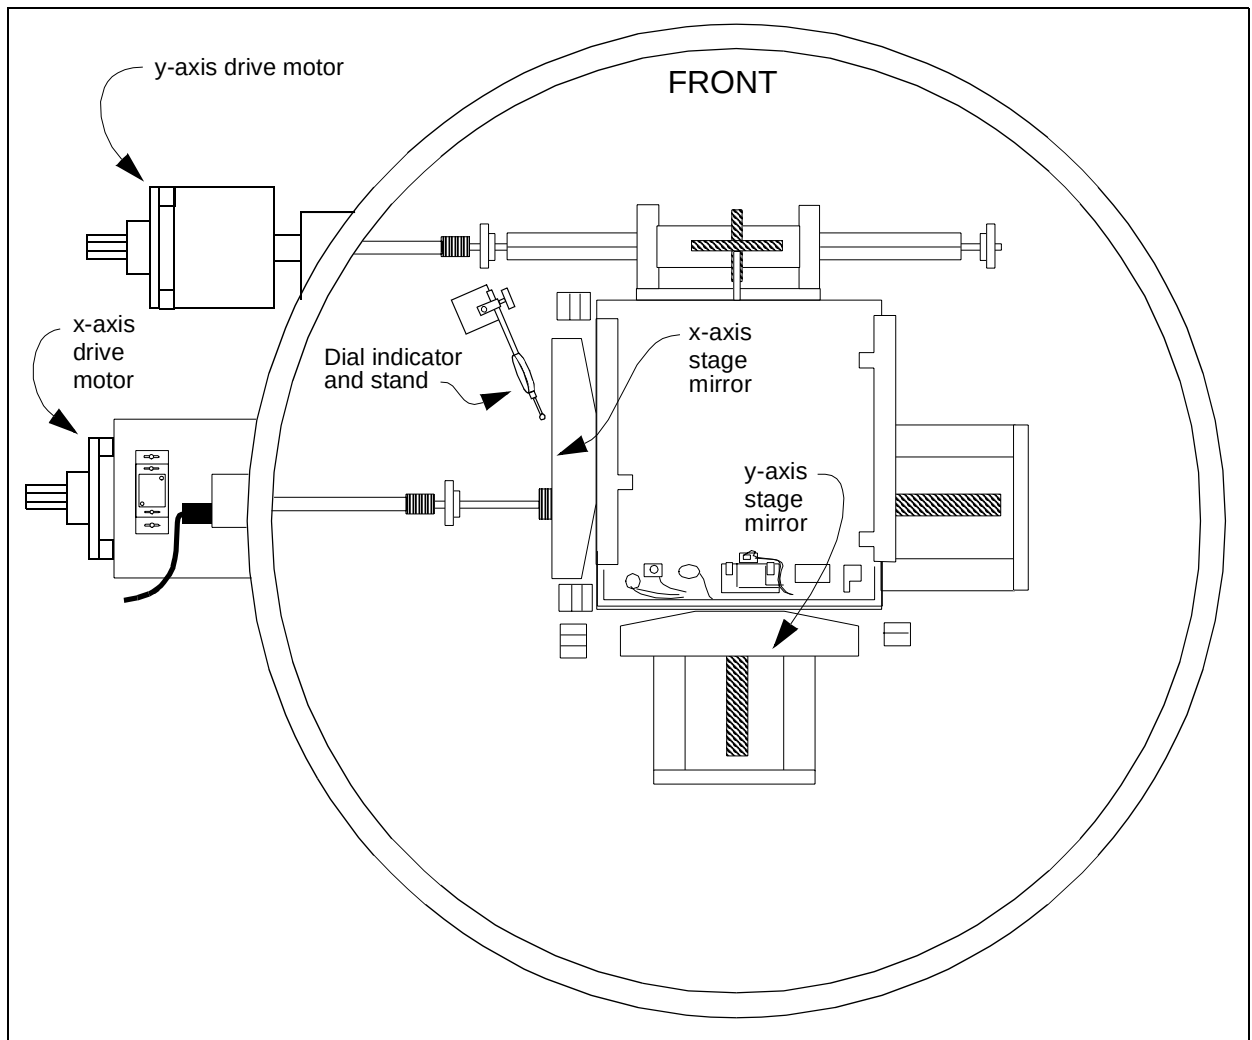
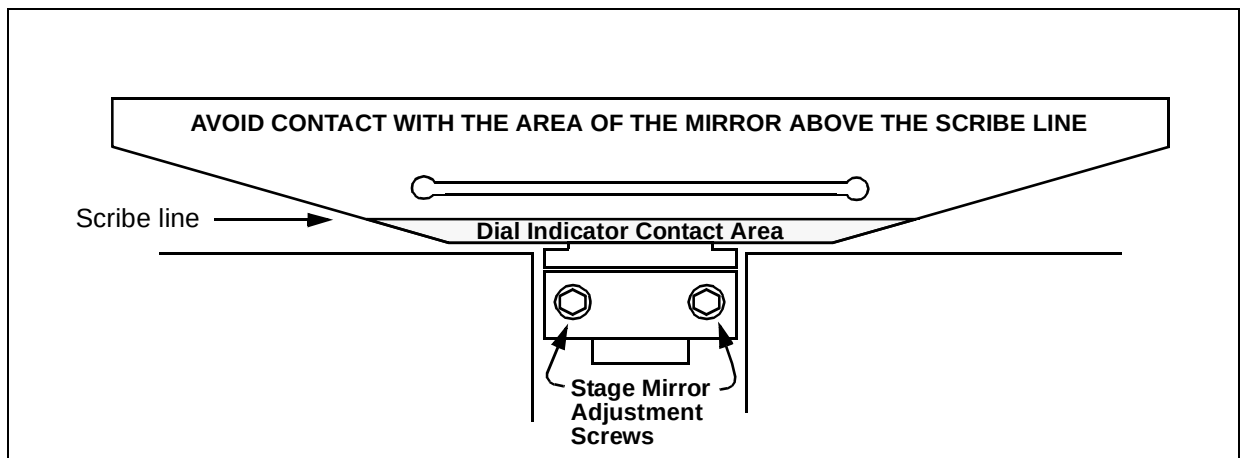

Figure 1. Top View of the Workchamber and Stage Mirrors (Lid Open)
Figure 2. Side View of Stage Mirror
- 2-2. Figure 1 shows the position of the x-axis stage mirror within the workchamber. Figure 2 shows the side view of the x-axis stage mirror. Note that there is a scribe line near the bottom of the mirror. The laser beams make contact with the area of the mirror above the scribe line; **this surface must not be scratched or damaged in any way.** The area below the scribe line is not contacted by the laser beams; this is the area of the mirror that will be used (with the dial indicator) to check the stage mirror alignment.
- 2-3. Use the adjustable dial indicator stand to position the dial indicator near the side of the x-axis stage mirror (see Figure 1). Adjust the height of the dial indicator stand so that the dial indicator will make contact with the area of the x-axis stage mirror **below the scribe line.** See Figure 2.
- 2-6. If the dial indicator reading varies by more than 0.00005", use the stage mirror adjustment screws (shown in Figure 2) to adjust the position of the x-axis stage mirror. Begin with minimal rotation (less than one turn) of the stage mirror adjustment screws; even a small adjustment may result in a significant change in stage mirror alignment. Repeat step 2-5. Repeat the x-axis stage adjustment until the dial indicator reading is within specification.